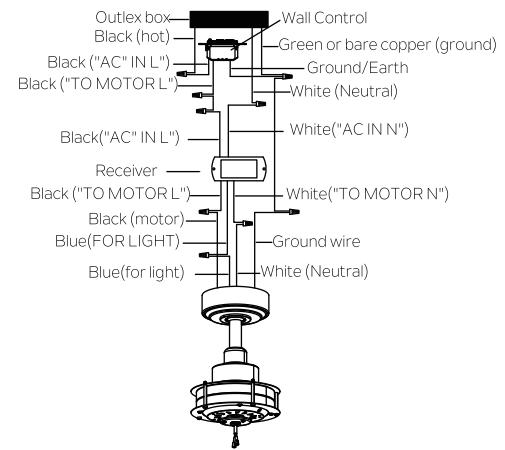

Fig. 13
Step 2. Motor to Receiver Electrical Connections: Connect the BLACK wire from the fan to BLACK wire marked "TO MOTOT L" from the receiver. Connect the WHITE wire from the fan to the WHITE wire marked "TO MOTOR N" from the receiver. Connect the BLUE wire from the fan to the BLUE wire marked "FOR LIGHT" from the receiver. Secure all the wire connections with the plastic wire connectors provided. (Fig. 13)
Step 3. Remote Receiver to Outlet Box Electrical Connections: Connect the BLACK (hot) wire from the ceiling to the BLACK wire marked "AC IN L" from the wall control . Connect the WHITE (Neutral) wire from the ceiling to the WHITE wire marked " AC IN N" from the receiver. Connect the BLACK (To Motor L) wire from the wall control to the BLACK wire marked " AC IN L" from the receiver. Secure the wire connections with the plastic wire connectors provided .(Fig. 13)
Step 4. If your outlet box has a ground wire (green or bare copper) connect it to the fan ground wires : otherwise connect the fan ground wire to the mounting bracket. Secure the wire connection with a plastic connectors provided. After connecting the wires, spread them apart so that the green and white wires are on one side of the outlet box and black and blue wires are on the other side. (Fig. 13)